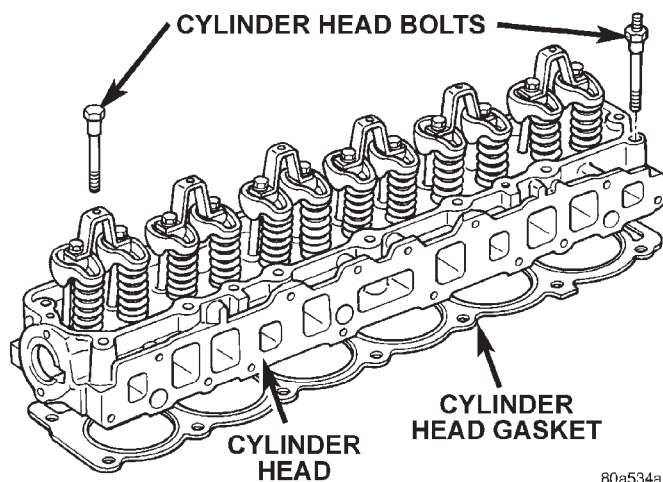

Fig. 36 Engine Cylinder Head Assembly
- (6) Remove the push rods. **Retain the push rods, bridges, pivots and rocker arms in the same order as removed.**
- (7) Loosen the accessory drive belt at the power steering pump, if equipped or at the idler pulley (refer to Group 7, Cooling System for the proper procedure).
- (8) If equipped with air conditioning, remove the air conditioning compressor, (refer to Group 24, Heating and Air Conditioning).
- (9) If equipped, disconnect the power steering pump bracket. Set the pump and bracket aside. DO NOT disconnect the hoses.
(10) Perform the Fuel System Pressure Release procedure (refer to Group 14, Fuel System).
(11) Remove the fuel supply line. Refer to Quick Connect Fittings in Group 14, Fuel Systems.
(12) Remove the intake and engine exhaust manifolds from the engine cylinder head (refer to Group 11, Exhaust System and Intake Manifold for the proper procedures).
(13) Disconnect the ignition wires and remove the spark plugs.
(14) Disconnect the temperature sending unit wire connector.
(15) Remove the ignition coil and bracket assembly.
(16) Remove the engine cylinder head bolts. Bolt No.14 cannot be removed until the head is moved forward (Fig. 36). Pull bolt No.14 out as far as it will go and then suspend the bolt in this position (tape around the bolt).
(17) Remove the engine cylinder head and gasket (Fig. 36).
(18) If this was the first time the bolts were removed, put a paint dab on the top of the bolt. If the bolts have a paint dab on the top of the bolt or it isn't known if they were used before, discard the bolts.
(19) Stuff clean lint free shop towels into the cylinder bores.